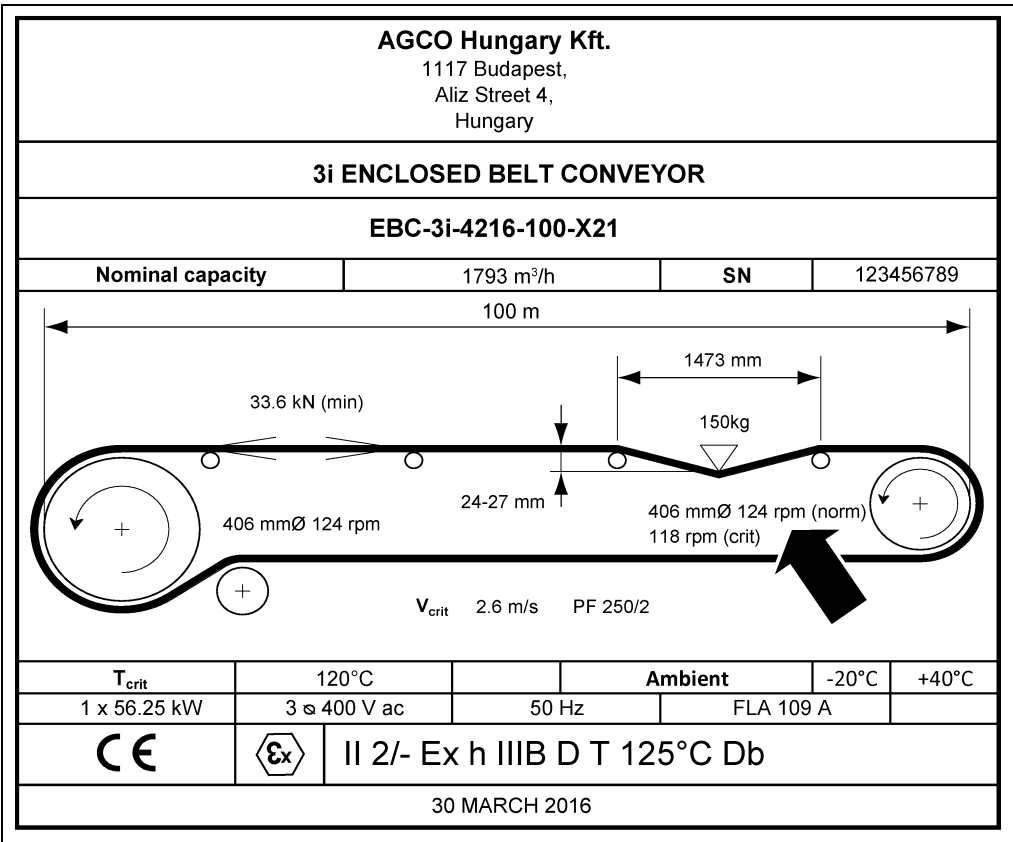

Figure 5A Rating Plate Showing Return Pulley Speeds
1. Belt slip shall be detected by monitoring the speed of the non-driven return pulley, in accordance with the normal and critical speeds given on the rating plate. Where the speed drops below the critical speed conveyor shall be brought to a safe stop. (See Figure 5A.)